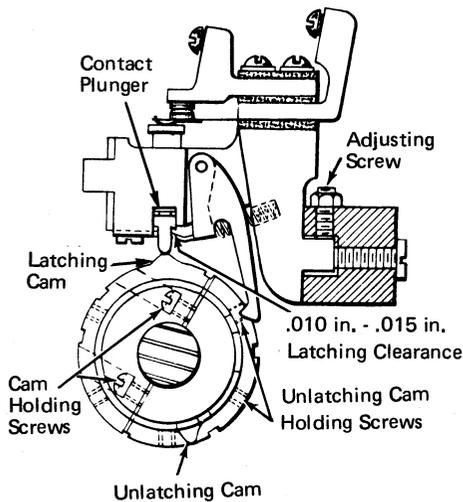

Figure 3-19. Latching Plunger Circuit Breaker—Adjustments 6, 7 and 8
6. Locate the cam contact unit on the mounting bar at its extreme limit of travel away from the cam (Figure 3-19), and with the plunger on the highest point of the cam lobe, advance the adjusting screw until the plunger latches; then advance the screw one-half turn
7. To adjust the make time of the contact, loosen the screws holding the cam to the shaft until the cam is just snug on the shaft (Figure 3-19). Turn the machine to the index point corresponding with the make time of the cam. Move the cam on the shaft in the direction of rotation until the contact just closes. The machine may now be turned to a point where the cam holding screws can be tightened. An accurate adjustment may be obtained by inserting a screwdriver in slots provided on the periphery of the cam for moving it on the shaft.
8. To adjust the break time of the contact, loosen the contact unlatching cam screws (Figure 3-19). Turn the machine to the proper index point and move the unlatching cam in its slot until the contact opens. Tighten the holding screws. There are six possible positions for holding screws, only two of which can be used at any one time.